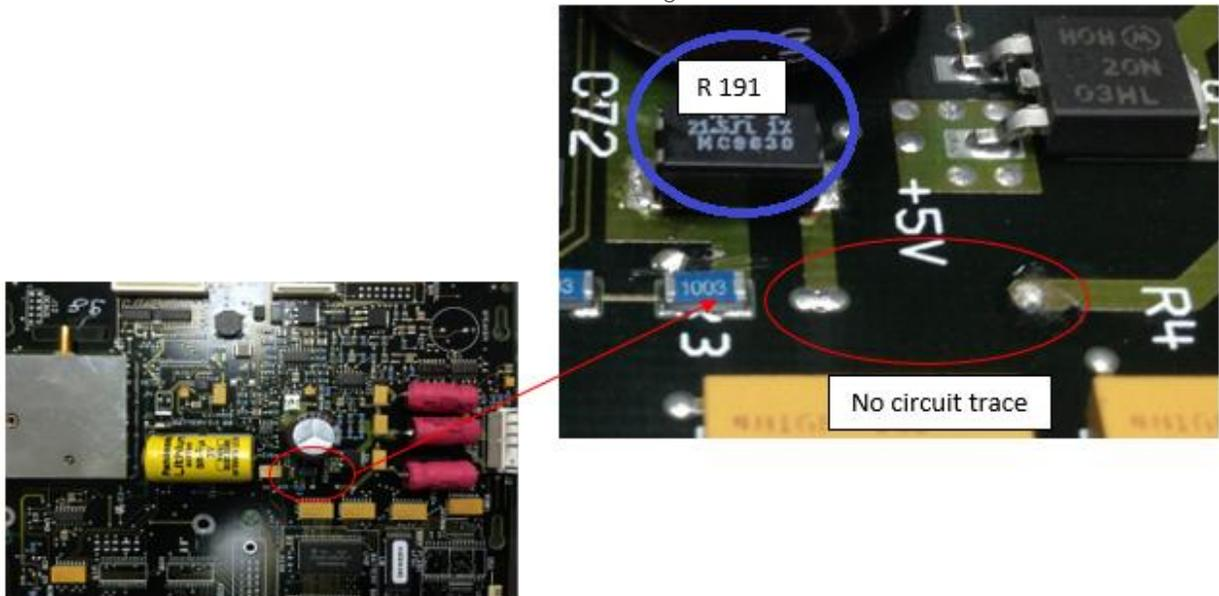

Figure 1
- 2) No circuit trace between main +12V PSU to Fan, refer figure 1
- 3) Remove resistor R191 from the circuit board, refer above figure 1